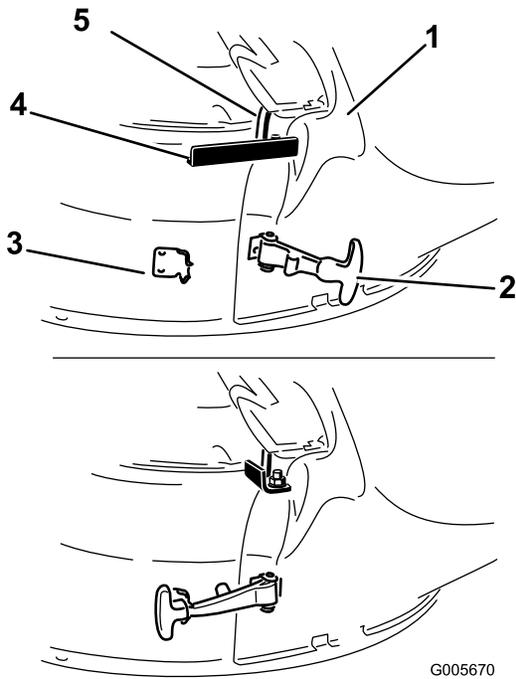

Figure 25
3. Secure the chute to the deck by hooking the flexible latch on the chute to the retaining clasp welded on the mower deck to the rear of the opening (Figure 25).
4. Fasten the retaining hook around the pivot rod to secure the chute into position (Figure 25).